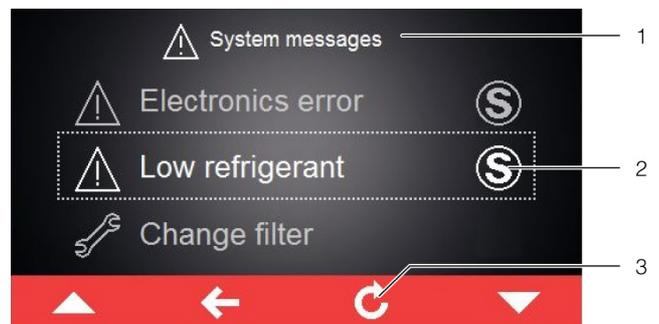

Fig. 38: Screen showing error messages
If an error message applies that cannot be resolved by the operator himself and which is not reset automatically, the "Service" symbol will appear after the error message and in the control bar next to the symbol for system messages (fig. 38, item 2).